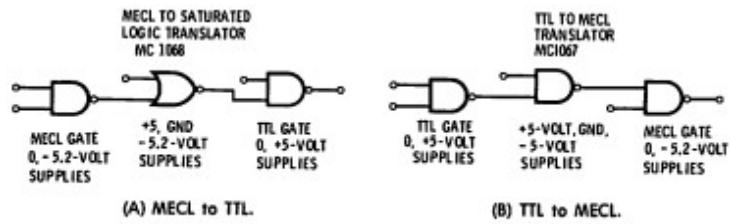

Fig. 1-16. TTL emitter-coupled logic interfacing.
**MECL and ECL**-Emitter-coupled logic families (Fig. 1-16) have unique logic swings, and it is difficult to build simple interfacing. Instead of this, commercial IC logic translators that do the job quickly and reliably are readily available.